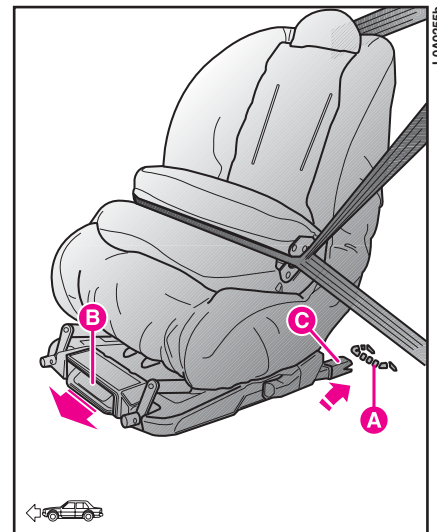

fig. 85
- check whether the release lever **B** (fig. 85) is at rest position (inward);
- identify the brackets **A** (fig. 85) and mount the child restraint system with the retainers **C** (fig. 85) aligned to the brackets;
With this configuration, the child is secured also by the car seat belts (fig. 85).